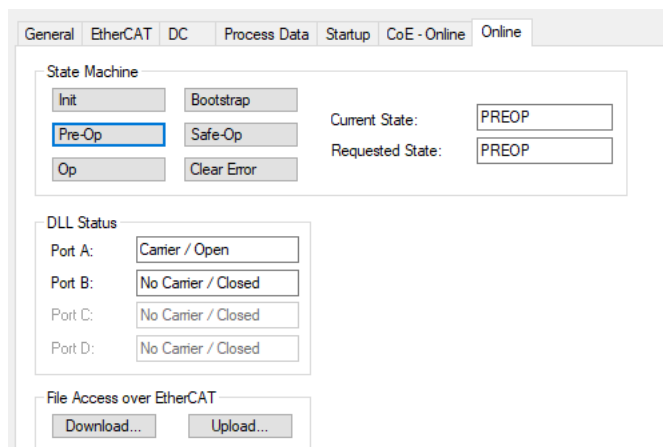

Fig. 6-36 Module in the “Pre-Operational” operating mode.
1. Under the **Online** tab, ensure that the relevant module is set to the “**Pre-Op**(erational)” *State Machine* setting (Fig. 6-36).